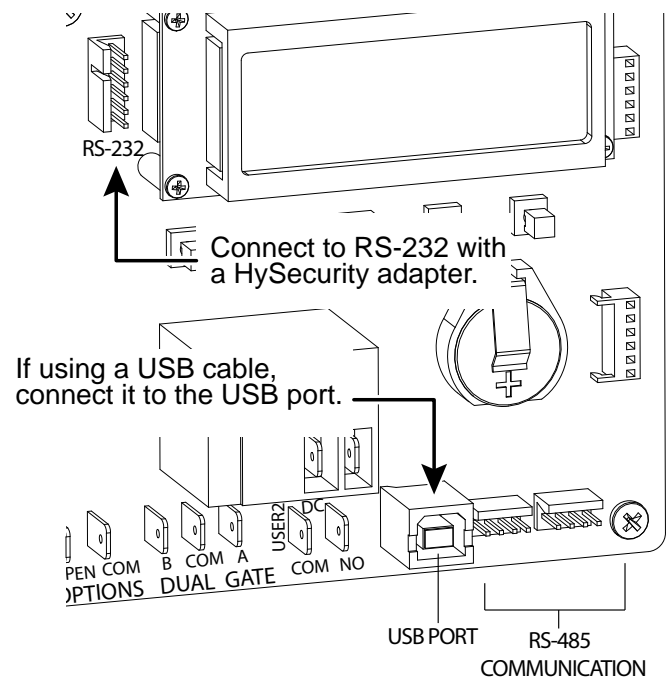
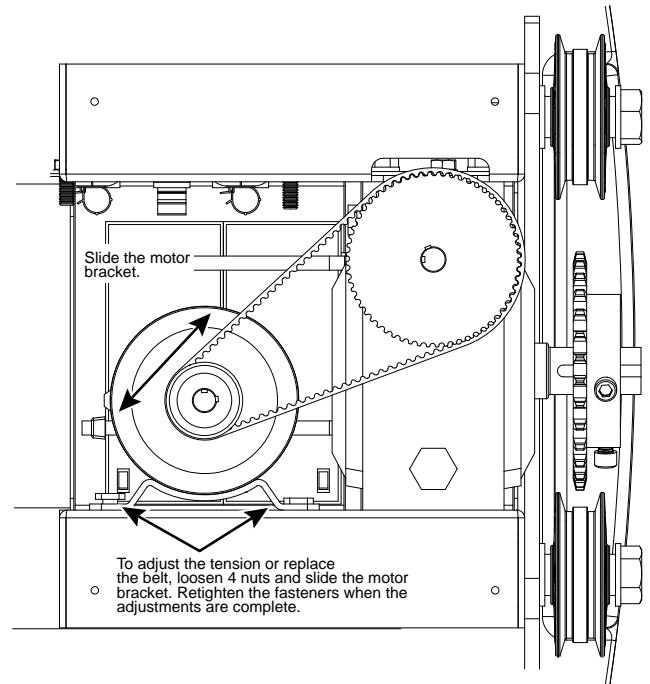

Figure 81. Smart DC Controller RS-232 and USB Connection
Figure 82. Drive Belt Tension and Alignment
4. With your finger, apply light outward pressure to the drive belt. If it is properly tensioned, it should only move about 1/16 to 1/8-inch (1.6 to 3.2cm). See Figure 81 and Figure 82.